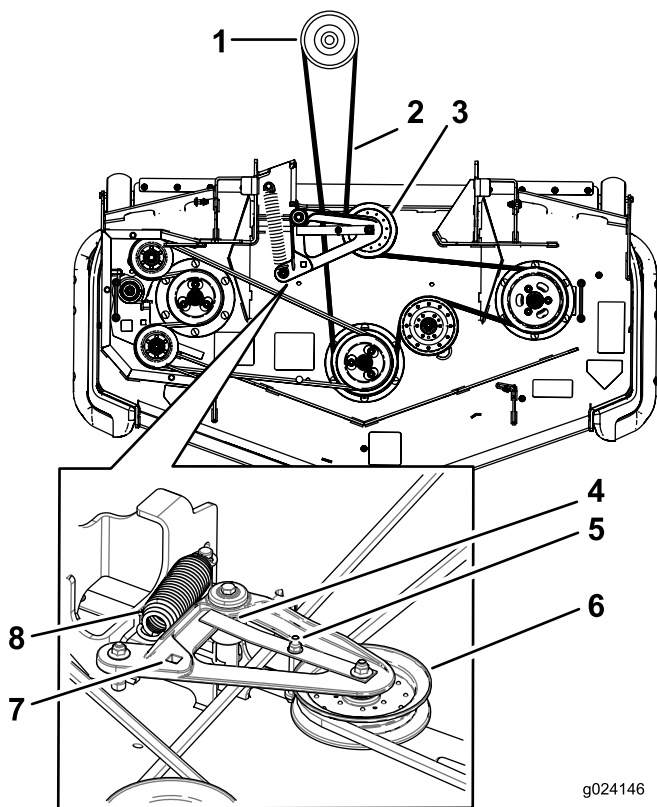

Figure 131
5. Lift up the floor pan and insert a ratchet into the square hole in the deck idler (Figure 130 or Figure 131).
6. Rotate the deck idler clockwise, lift up on the belt-guide tab (rear-discharge machines only), and remove the mower belt (Figure 130 or Figure 131).